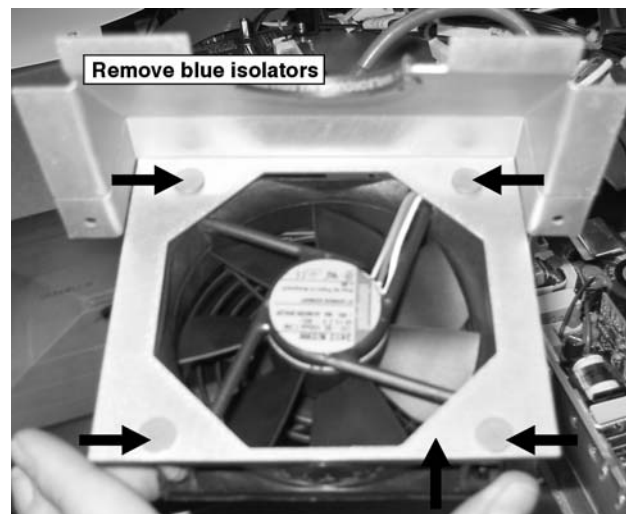

Figure 18. Removing LVPS Fan from Bracket Assembly
5. Lift the fan and bracket assembly and flip it over to access the back – pull the four (4) blue rubber isolators off to release the fan. (Figure 18.)